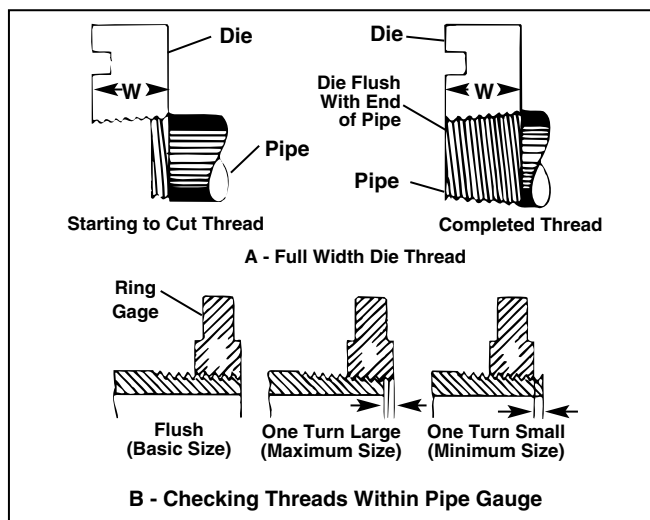

Figure 10 – Checking Thread Length
- Thread is cut to proper length when end of pipe is flush with edge of dies (Figure 10).
- Die Head is adjustable to obtain proper thread diameter. If possible, threads should be checked with a thread ring gage (Figure 10). A proper thread is cut when end of pipe is plus or minus one turn of being flush with face of ring gauge.